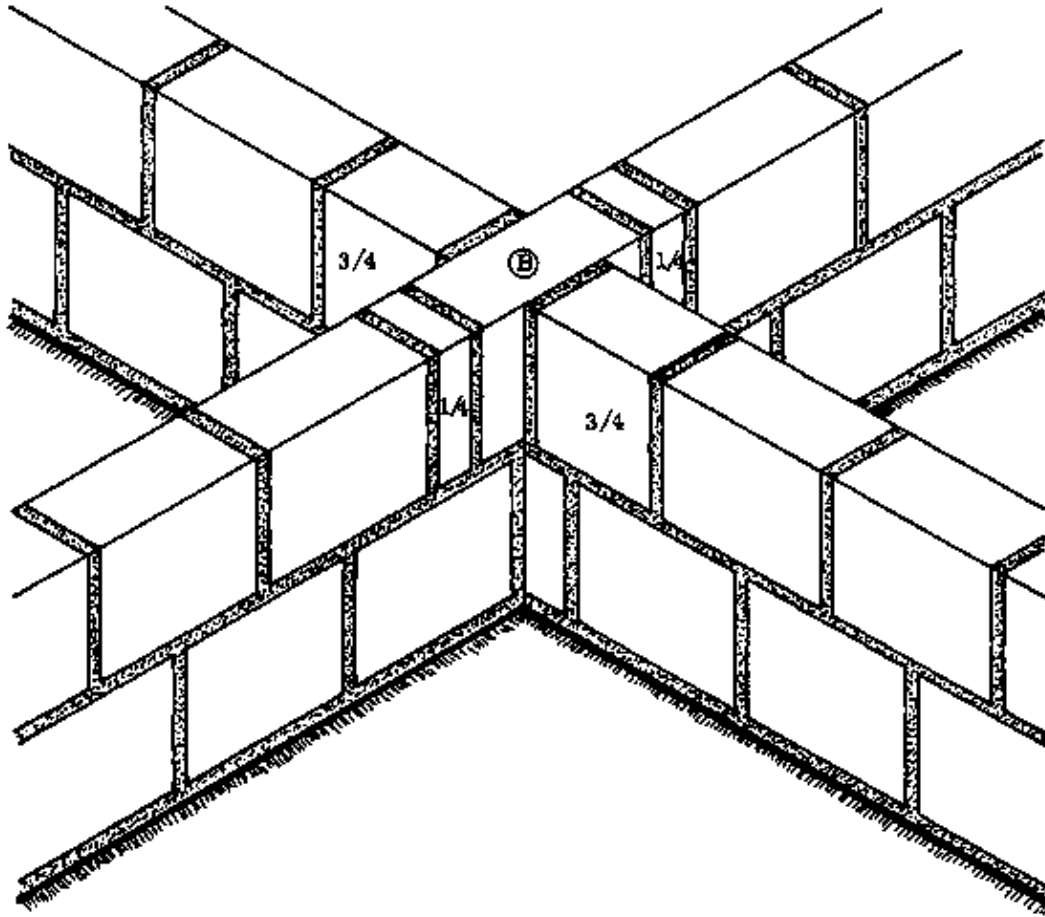

Fig. 2
The arrangement for courses with an even number (2nd, 4th, 6th, etc.) is shown in Fig. 2. These courses also start with a full block (B) set exactly across the middle of the through-going block below. This block is followed by 1/4 blocks on its ends and 3/4 blocks on its stretcher sides. This is continued in all four directions with full blocks.